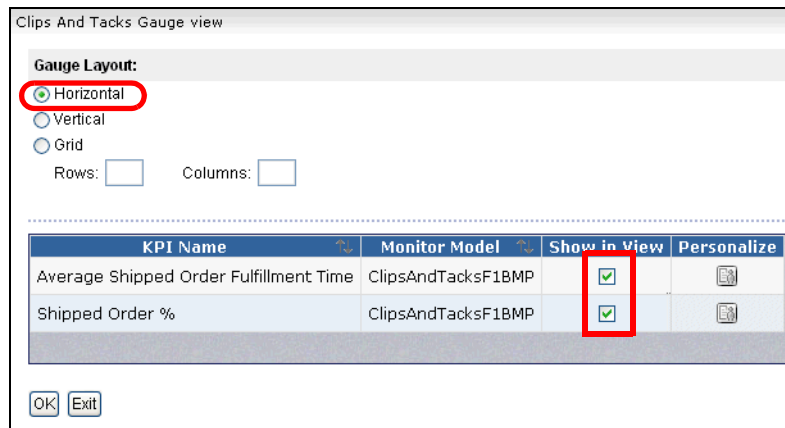

Figure 14-78 Configuration of gauges view
- ▶ The page displayed gives the ability to change the Gauge layout between horizontal, vertical, and grid (Figure 14-78).